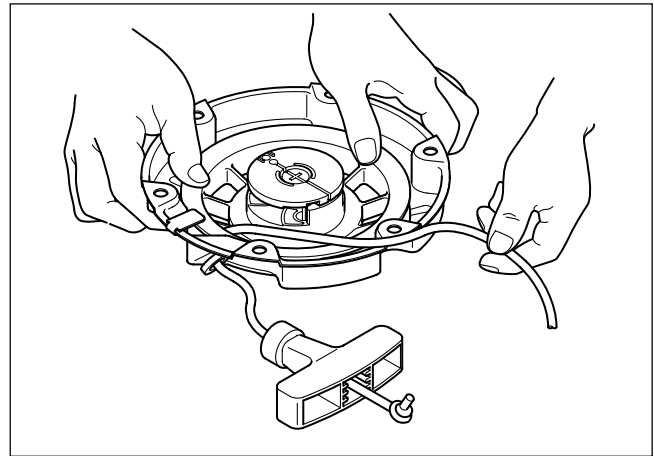

Fig. 9-1
(1) Setting off the spring power
- 3 : Push and hold the reel with the thumbs of both hands firmly so that the rope will not be wound back. (Fig. 9-1)